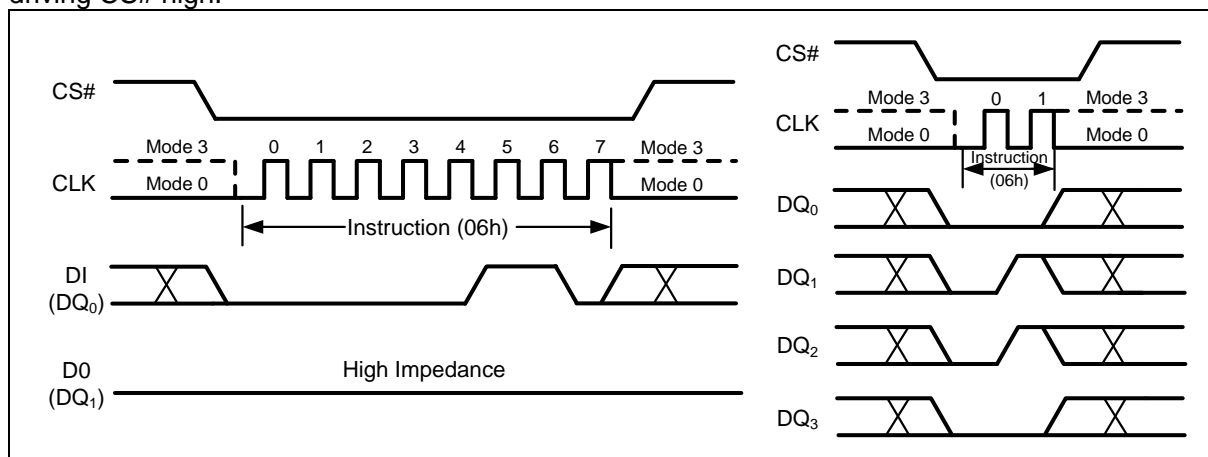

Figure 13 Write Enable Instruction for SPI Mode (left) or QPI Mode (right)
Instructions vary in length from a single byte to several bytes and may be followed by address bytes, data bytes, dummy bytes (don't care), and in some cases, a combination. Instructions are completed with the rising edge of CS#. Clock relative timing diagrams for each instruction are included in Figure 13 through Figure 74. All read instructions can be completed after any clocked bit. However, all instructions that Write, Program or Erase must complete on a byte boundary (CS# driven high after a full 8-bits have been clocked) otherwise the instruction will be ignored. This feature further protects the device from inadvertent writes. Additionally, while the memory is being programmed or erased, or when the Status Register is being written, all instructions except for Read Status Register will be ignored until the program or erase cycle has completed.
The Write Enable (WREN) instruction (Figure 13) sets the Write Enable Latch (WEL) bit in the Status Register to a 1. The WEL bit must be set prior to every Page Program, Quad Page Program, Sector Erase, Block Erase, Chip Erase, Write Status Register and Erase/Program Security Sectors instruction. The Write Enable (WREN) instruction is entered by driving CS# low, shifting the instruction code “06h” into the Data Input (DI) pin on the rising edge of CLK, and then driving CS# high.